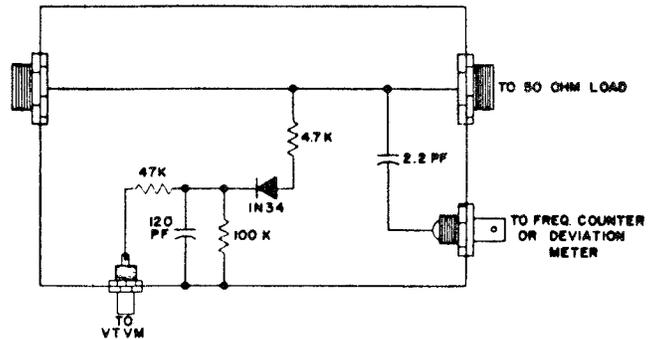

Figure 4-6. Relative Output Indicator
2. Attach a 50-ohm power meter, or a relative output indicating device (Figure 4-6), to transceiver antenna connector.
2. With crystal installed and channel switch in corresponding position, connect a frequency-indicating device to transceiver -- either by loop coupling to final-power stage or, by connecting to jack on relative output device (Figure 4-6). Adjust appropriate crystal-netting capacitor for correct frequency.
2. Connect unit to relative output indicating device (Figure 4-6); then connect deviation monitor to appropriate jack on output indicating device.